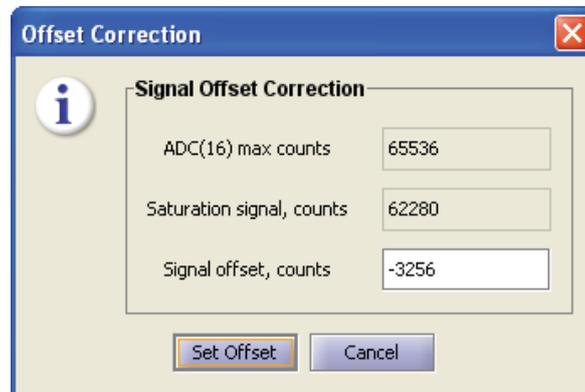

Fig. 7 Offset correction.
4. Select Correct/Saturation Offset from the main menu. The dialog (Fig. 7) will appear